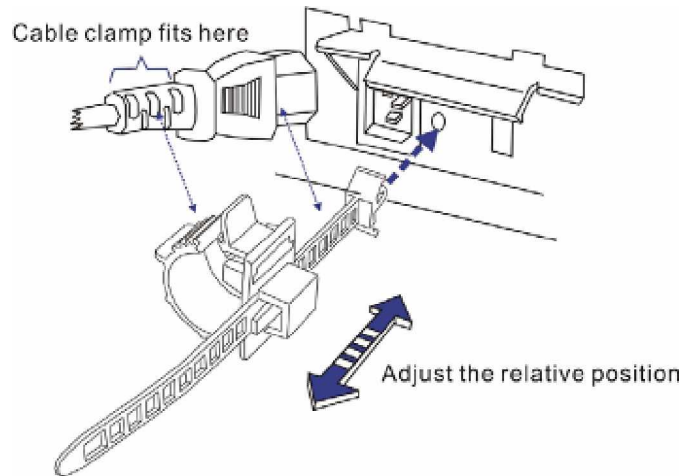

Figure 2-15: Power Cord Clamp Position
Step 2. Connect a power cord to a subsystem power socket so that you can determine the correct position of the cable clamp along the cable strap. *Figure 2-15* shows the relative positions of a power cord, cable clamp, and cable strap.